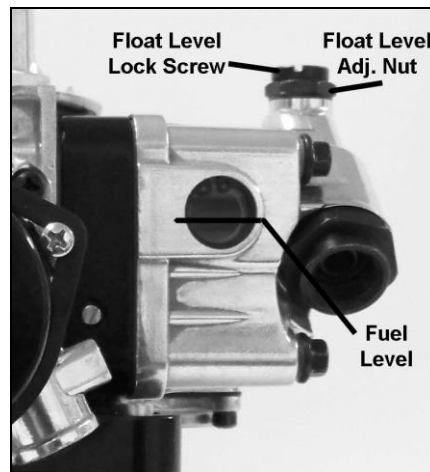

Figure 12
2. Observe the sight glass for the fuel level. If none is seen, the level is too low. If it is higher than the middle of the sight window, it is too high. **NOTE:** A properly set float level will have the fuel level located at the middle or slightly below the middle of the sight window, as shown by the line in **Figure 12**.